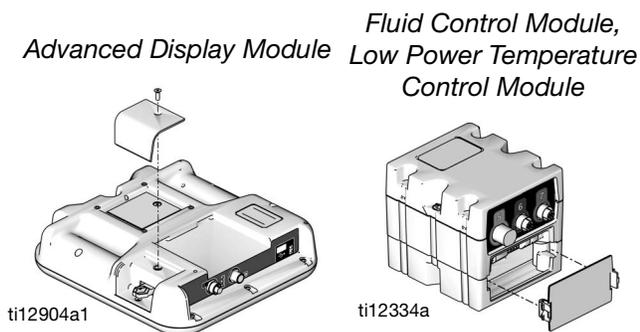

FIG. 46: Remove Access Panel
2. Remove token access panel. See FIG. 46.